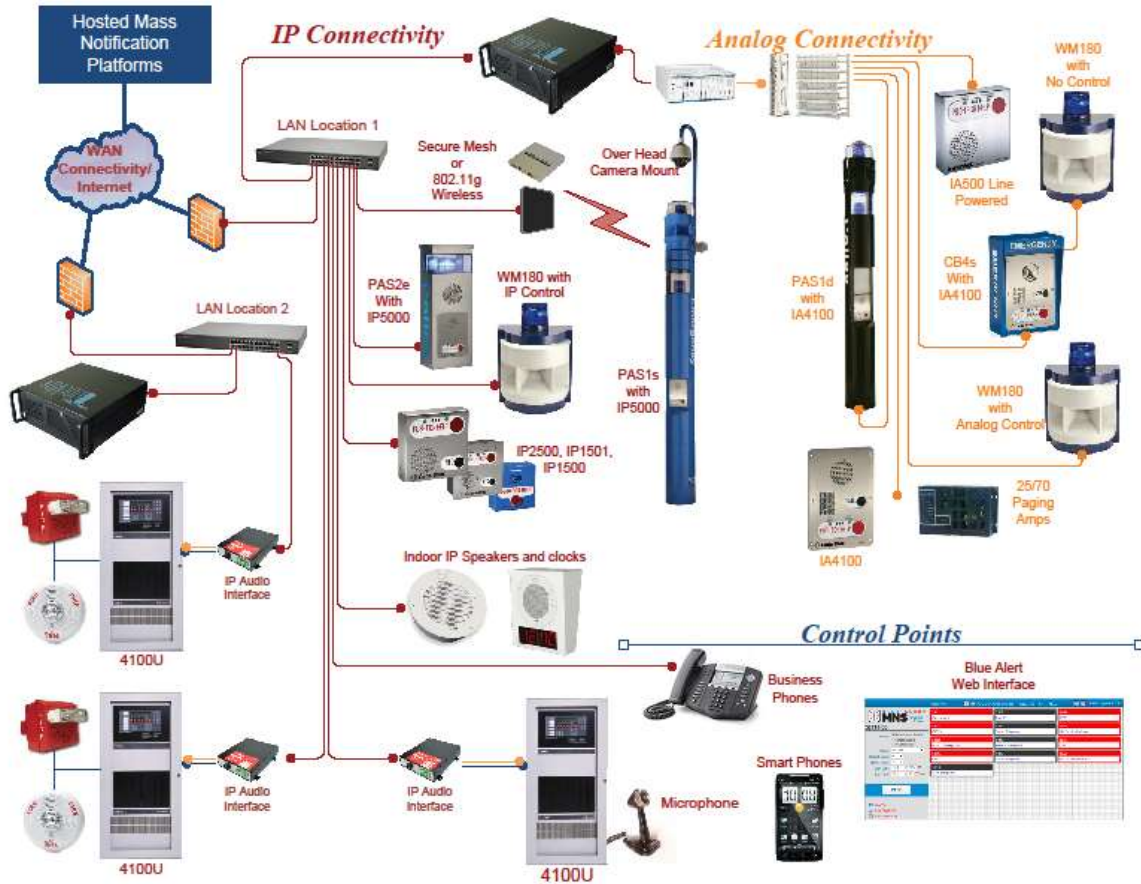

Figure 5
4.1.4.4 Connect incoming 120V AC wiring to the transformer using the junction box on mounting plate. Refer to included wiring diagram for wiring terminations (See Figure 5 on Page 19).